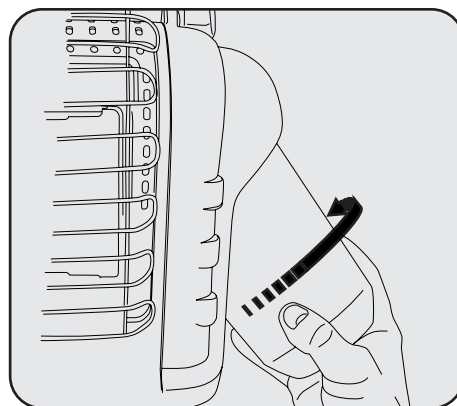

Figure 4
3. Screw 1 lb. disposable LP-gas supply cylinder clockwise (from bottom) into portable heater until hand-tight. See Figure 4. Do not use thread sealant on this connection.